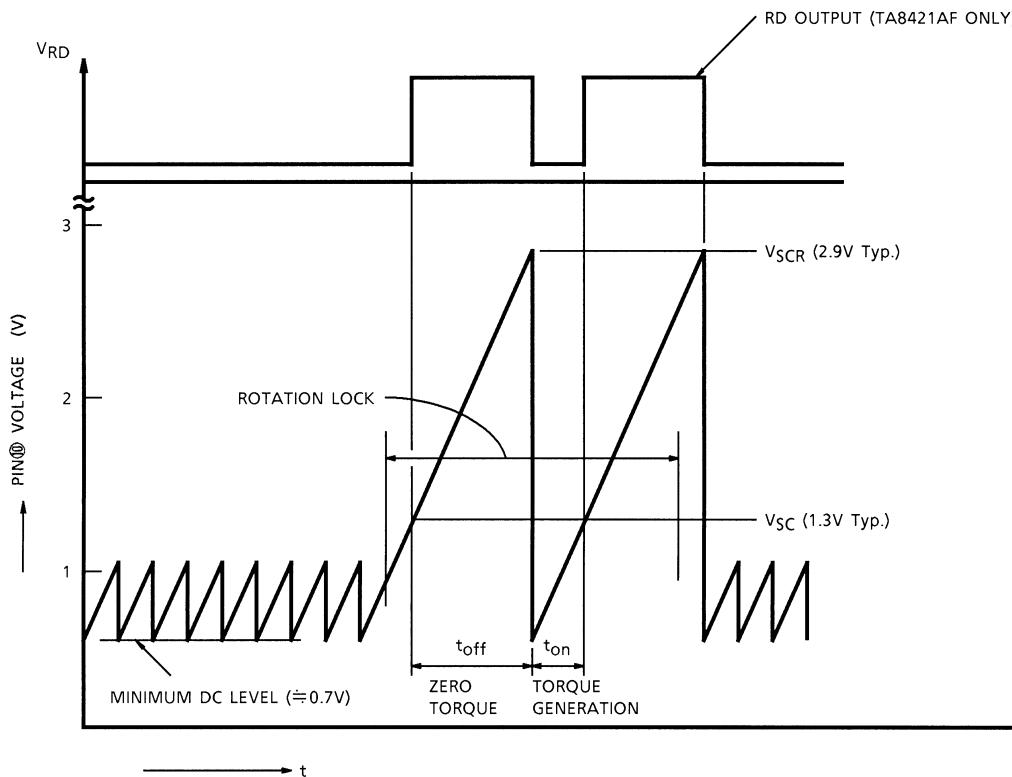

Fig.1 Automatic Self Rotation Recovery Circuit Operation
Fig.1 shows pin (10) voltage and the operation of this functions are as follows.
RD output becomes low (Actually VSAT (RD) level of 0.3 V Typ.) when the Motor in rotation state and generates toff pulse when the rotation is locked (Refer to Fig.1).